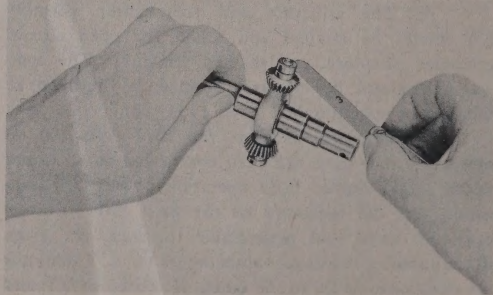

Figure 344 — Checking End Play of Pinion on Crosshead
(b) Turn each cross-head pinion to see that it runs free on the cross-head. If the pinion does not turn freely, the taper pin and collar (11) must be removed and the pinion washer (10) replaced with a thinner washer. If the pinion runs free, check the end play of the pinion on the cross-head with a thickness gage as shown in figure 344. End play at this point should be not more than .003 inches. If more than this amount of end play is present, remove the taper pin and collar (11) and replace the pinion washer